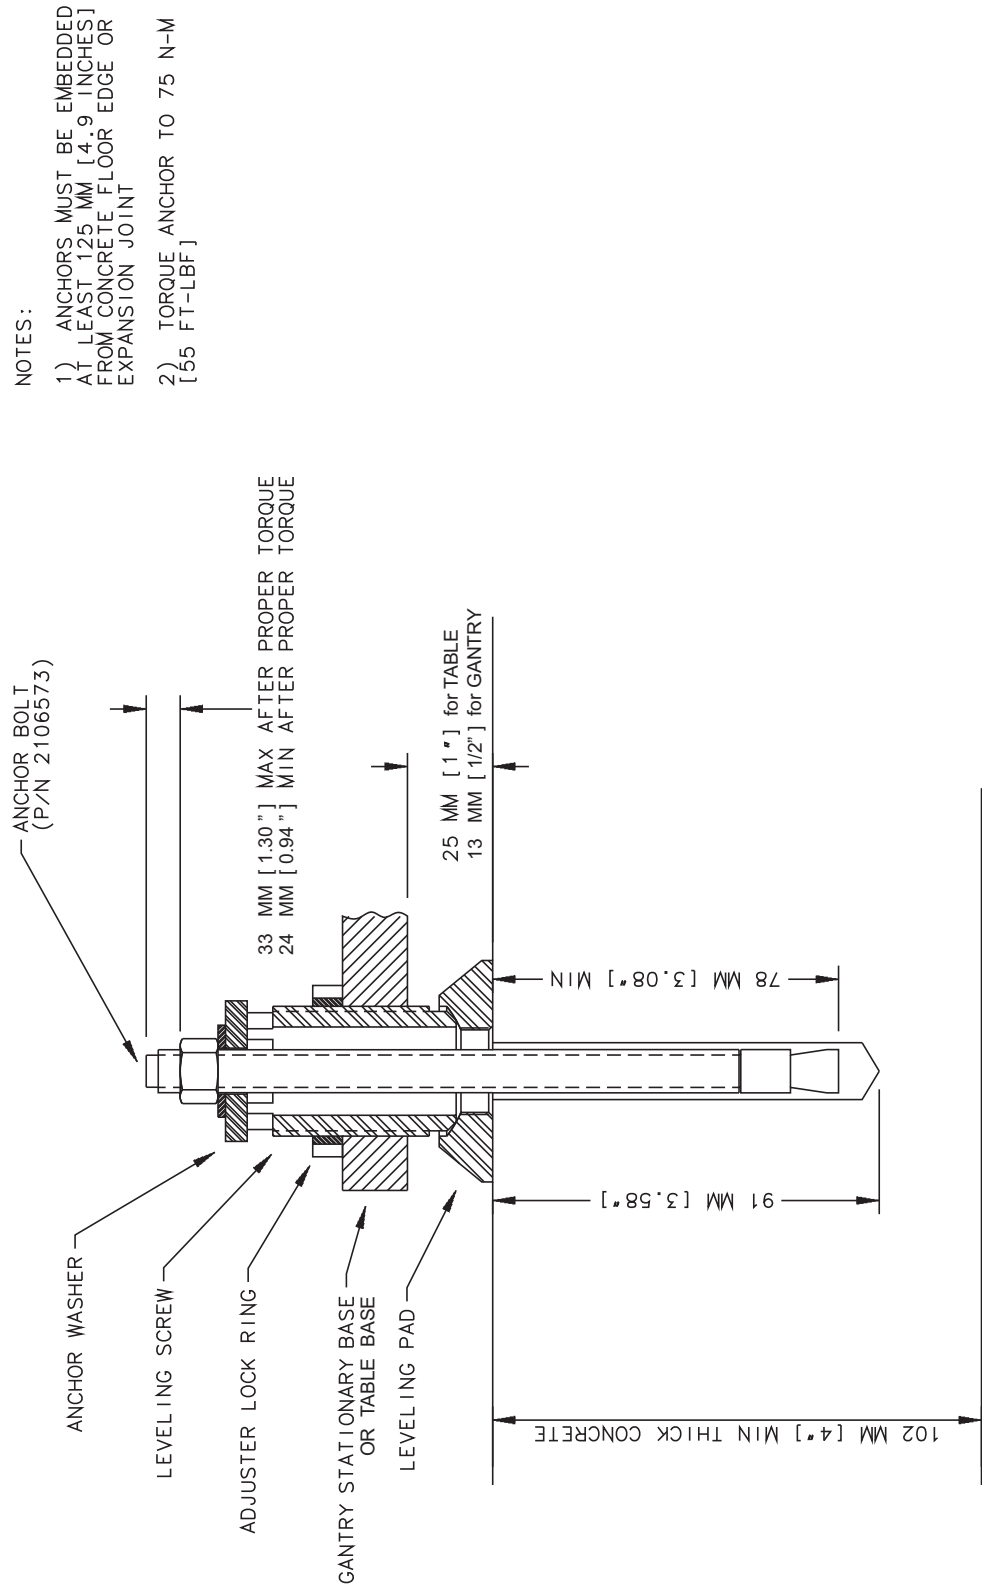

Figure 8-6 Gantry and Table Anchoring with 2106573 (8 in.) Anchor Bolt
Table 8-3 lists the specifications of GE-supplied anchors for the system. There are three types of anchors used in this product depending on manufacturing date and table type. For a detailed view, including dimensions and additional specifications, see Figure 8-6 ~ Figure 8-8 of this section.
- Any anchors showing more than specified length of thread above the torqued nut (see Figure 8-6 ~ Figure 8-8) requires the installation of a second anchor in the closest adjacent mounting location. The second anchor shall meet the same requirements in Table 8-4.
- Non-seismic installations must use a minimum of four (4) anchors to mount the gantry and four (4) anchors to mount the table.
Note: The table does not have the Adjuster Lock Rings shown in Figure 8-6 and Figure 8-8 of this section.